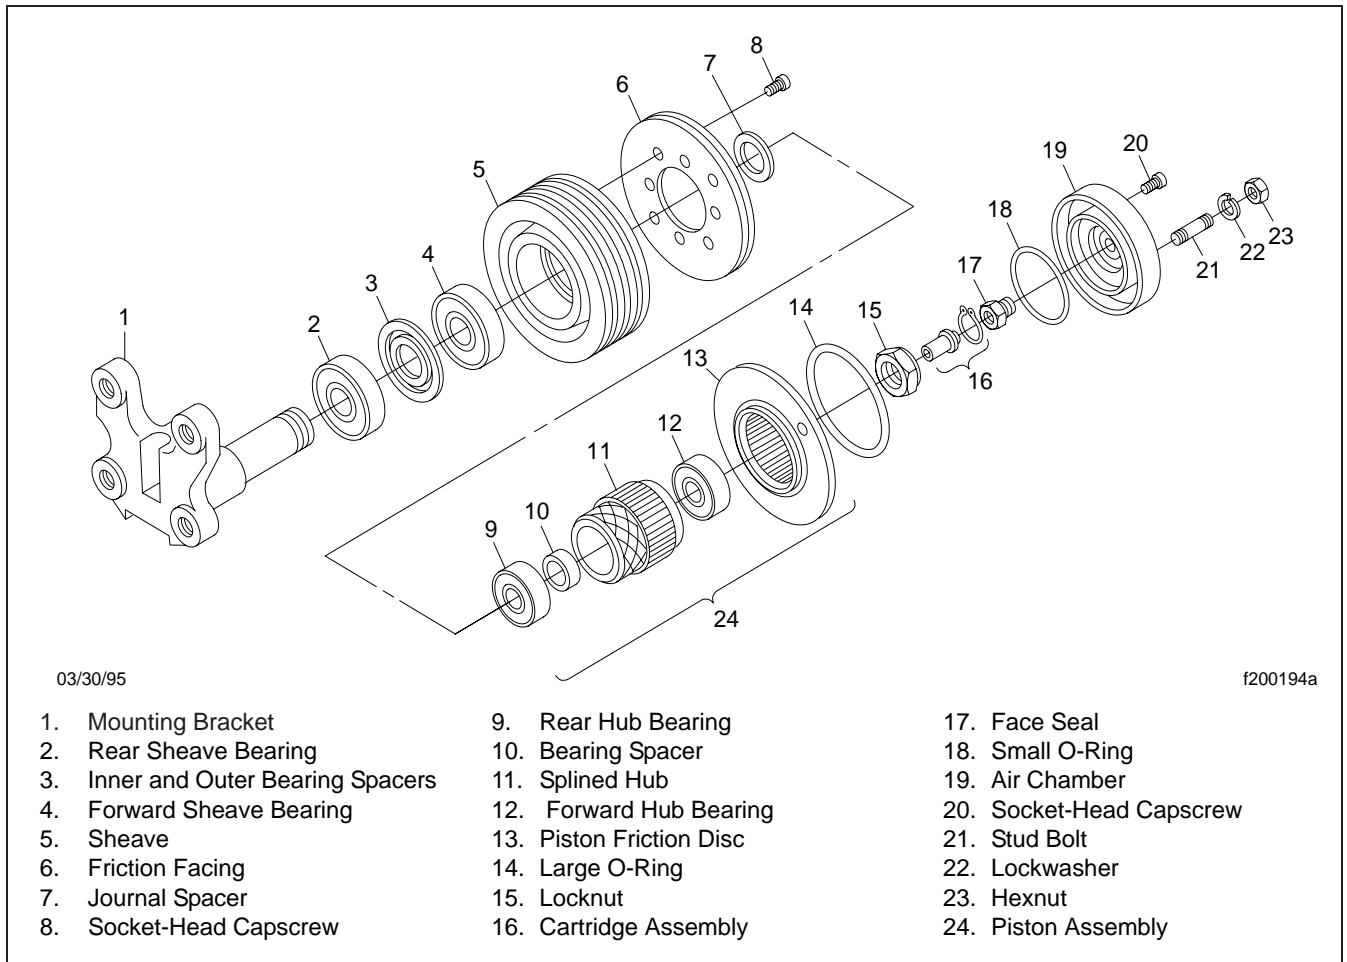

Fig 3, Horton Advantage Fan Clutch Components
- 9.1. Check for a leak at the bleed hole on the fan pilot. Air leakage means that the cartridge assembly (**Fig. 3**, Ref. 16) or face seal (Ref. 17) is damaged.